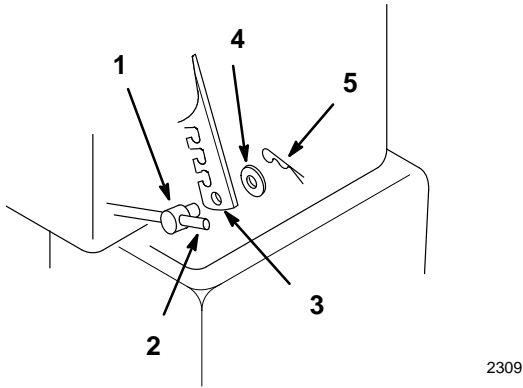

Figure 8
11. Thread trunnion 1" into end of lift cable threaded end and insert into lower hole of lift lever. Secure with 5/8" washer and hairpin cotter (Fig. 8).